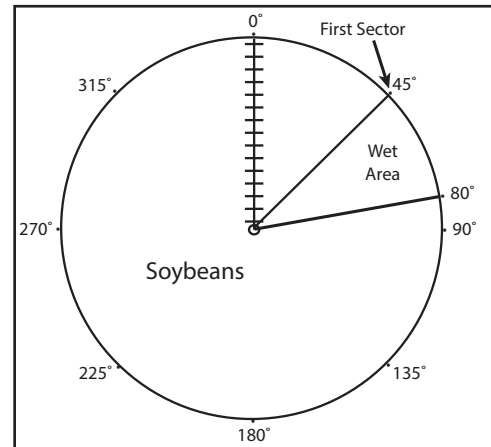

Figure 106-1
In this program example, the region has recently experienced a lot of rain, and a low area of the soybean field has become wetter than usual. The machine is currently running at 60%, but you want to cut that in half for this area of the field. Refer to Figure 106-1.
1. Push **Prog.** and **Sector Prog.** to view the Sector Program screen. Refer to Figure 106-1.
3. Program the start and end angles, and direction for this sector. Refer to Figure 106-1.